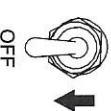

Figure 27. Operation Switch (OFF)
- To shut-down the engine, place the generator's operation switch (Figure 27) in the **OFF** position.
- Place operation switch (Figure 27) in the **OFF** position.